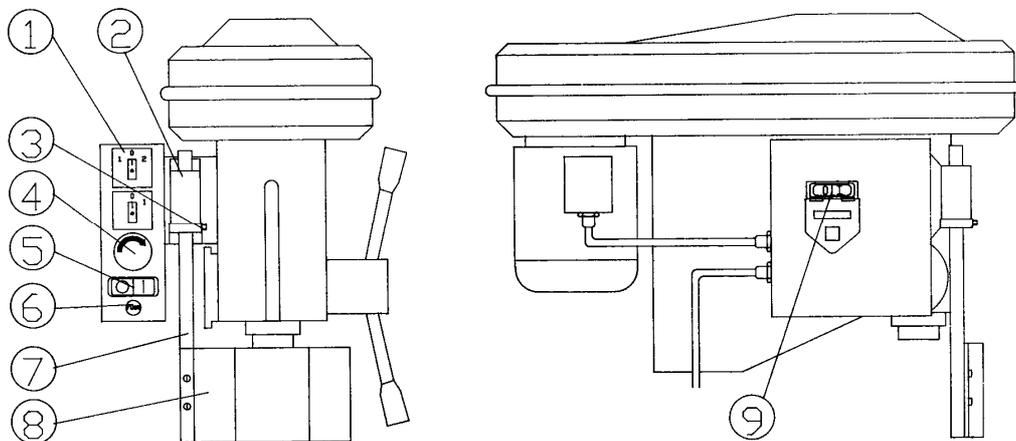

FIG.6
**CHAPITRE 6 : MISE EN MARCHÉ (FIG.6)**